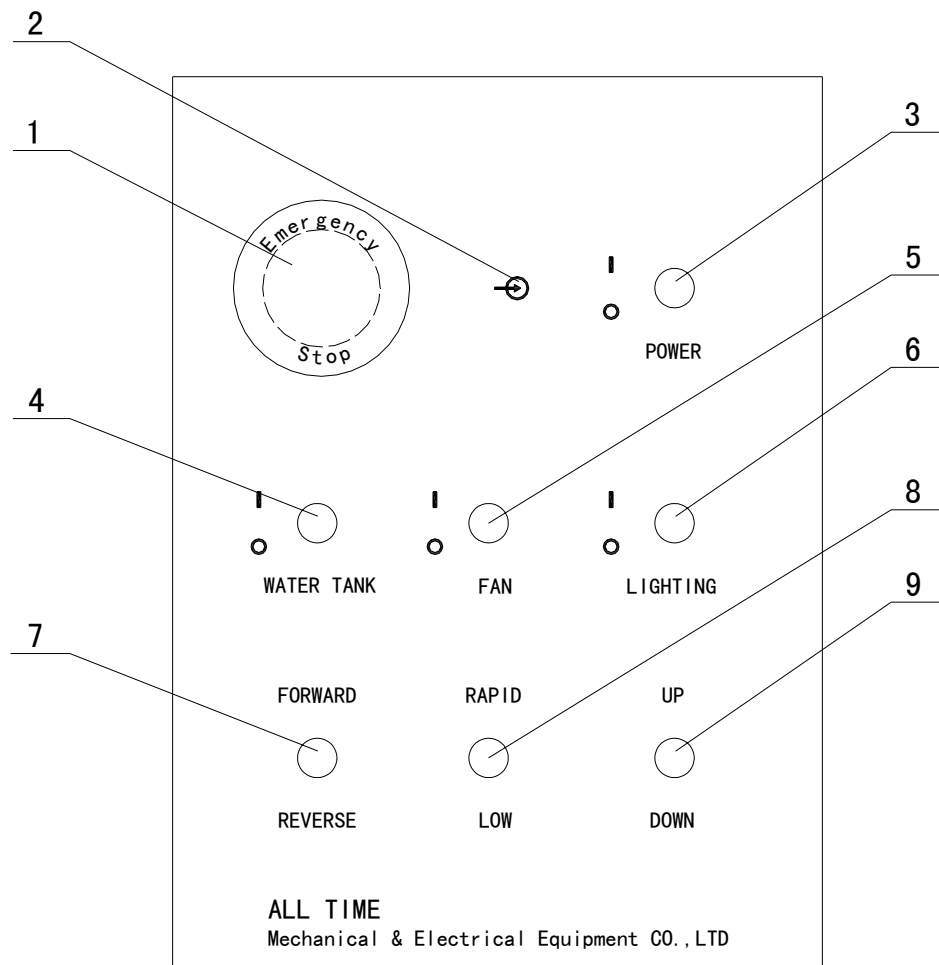

Fig.8. Operation Panel of Pendant
- The Operation Panel of pendant, please see the **fig. 8**.